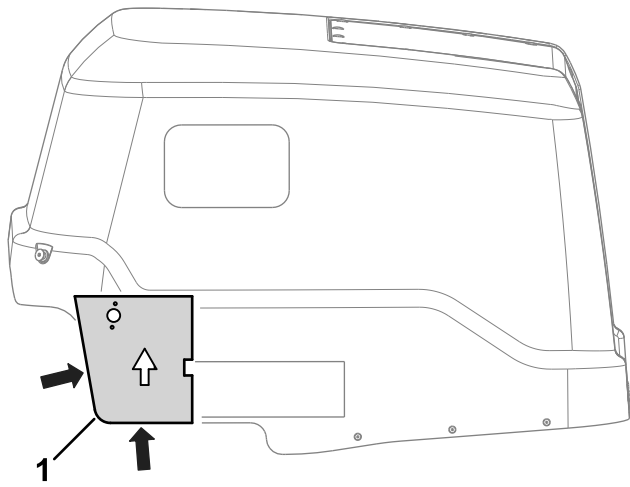

Figure 1
2. Align the template on the left side of the hood as shown in Figure 1.